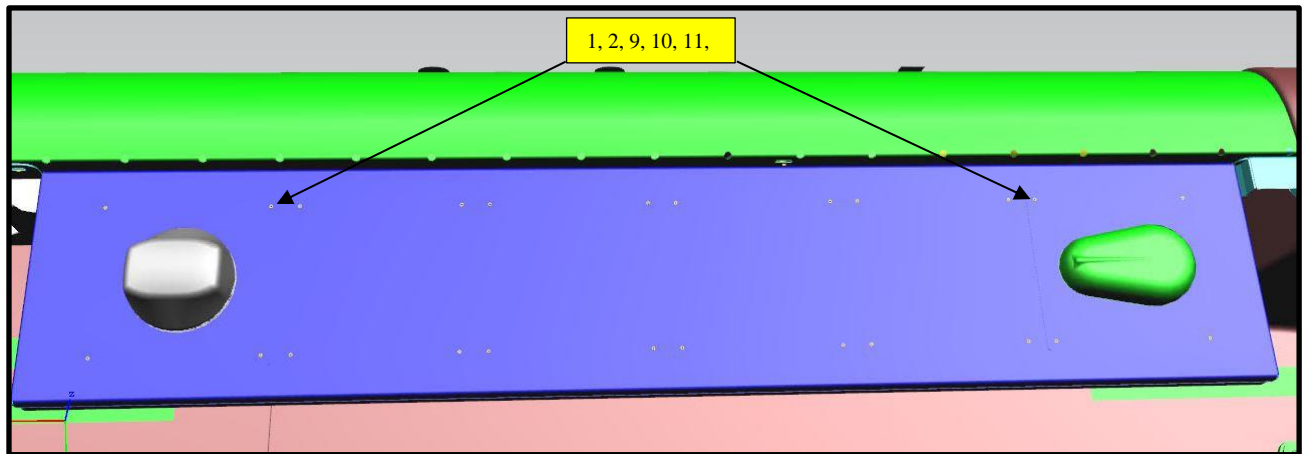

Figure 5: Antenna plate mounting locations
13. On the top of the antenna pedestal, clean off all the old Sika sealant from the pedestal and plate where the plates were removed in step 3. Be careful not to damage the paint. After the sealant has been removed, use a lint free cloth dampened with #10 Sika Aktivator and wipe the bonding surfaces of the antenna pedestal and the antenna plates. Allow to flash off for 5 mins. See Figure 5.
14. Apply an even bead of Item #11 Sika sealer around the entire perimeter of the antenna mounting plates and on the existing fasteners for the antenna mounting plates and fasten the plates back in place Using Items #1 Screw, #2 Washer and apply 1 or 2 drops of Loctite item #9 to the threads as shown. See Figure 5.